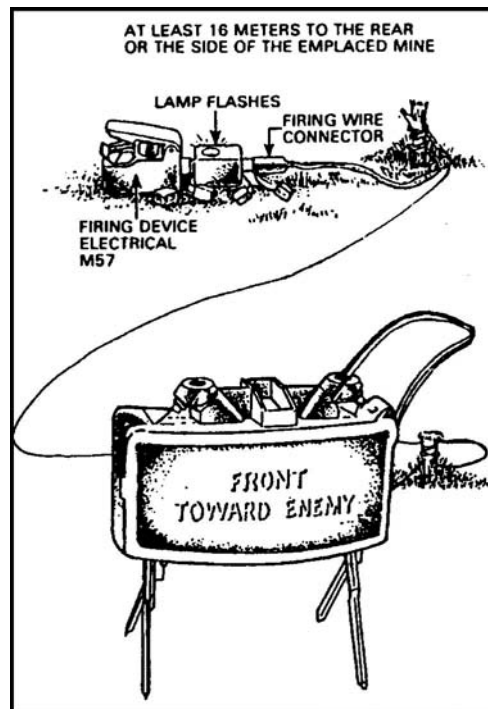

Figure 12. Testing the circuit.
8. Repeat step 2 to test the circuit after the firing wire is laid out and the cap is placed inside the mine to see if any breaks in the wire have occurred (Figure 12).